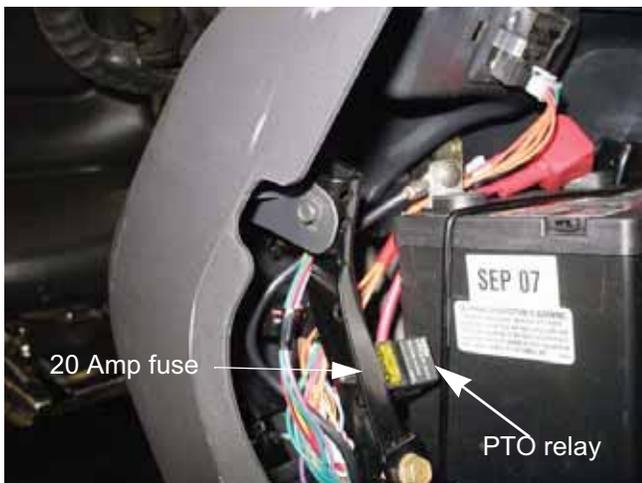

Figure 7.13
9. The 20A fuse is located near the RMC module / key switch assembly, under the dash panel. See Figure 7.13.